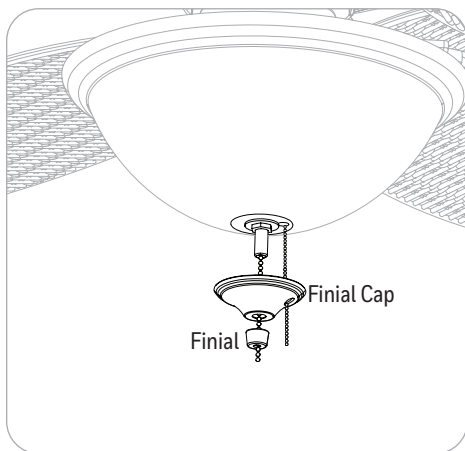

Figure 4.10
10. Feed the pull chains through the appropriate holes in the finial cap. Lift the finial cap up until it is flush with the glass bowl and secure with the finial (Figure 4.10).